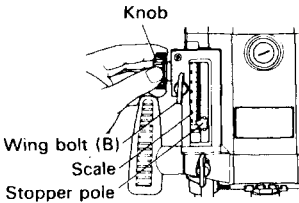

Fig. 6
(3) As shown in Fig. 6, loosen wing bolt (B). Turning knob while pulling it outward will cause to move. Pushing it back and turning will cause stopper pole to move.